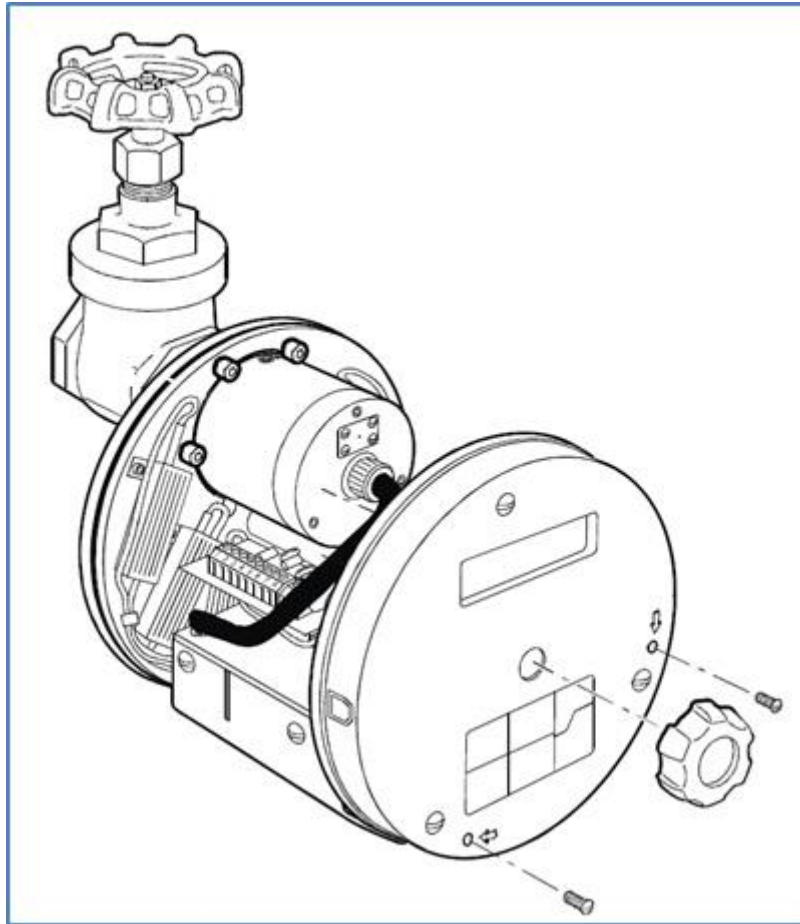

Figure 7-9: Installing the CPU Module
2. Fasten the module with the two 6-32 screws (see Figure 7-9).